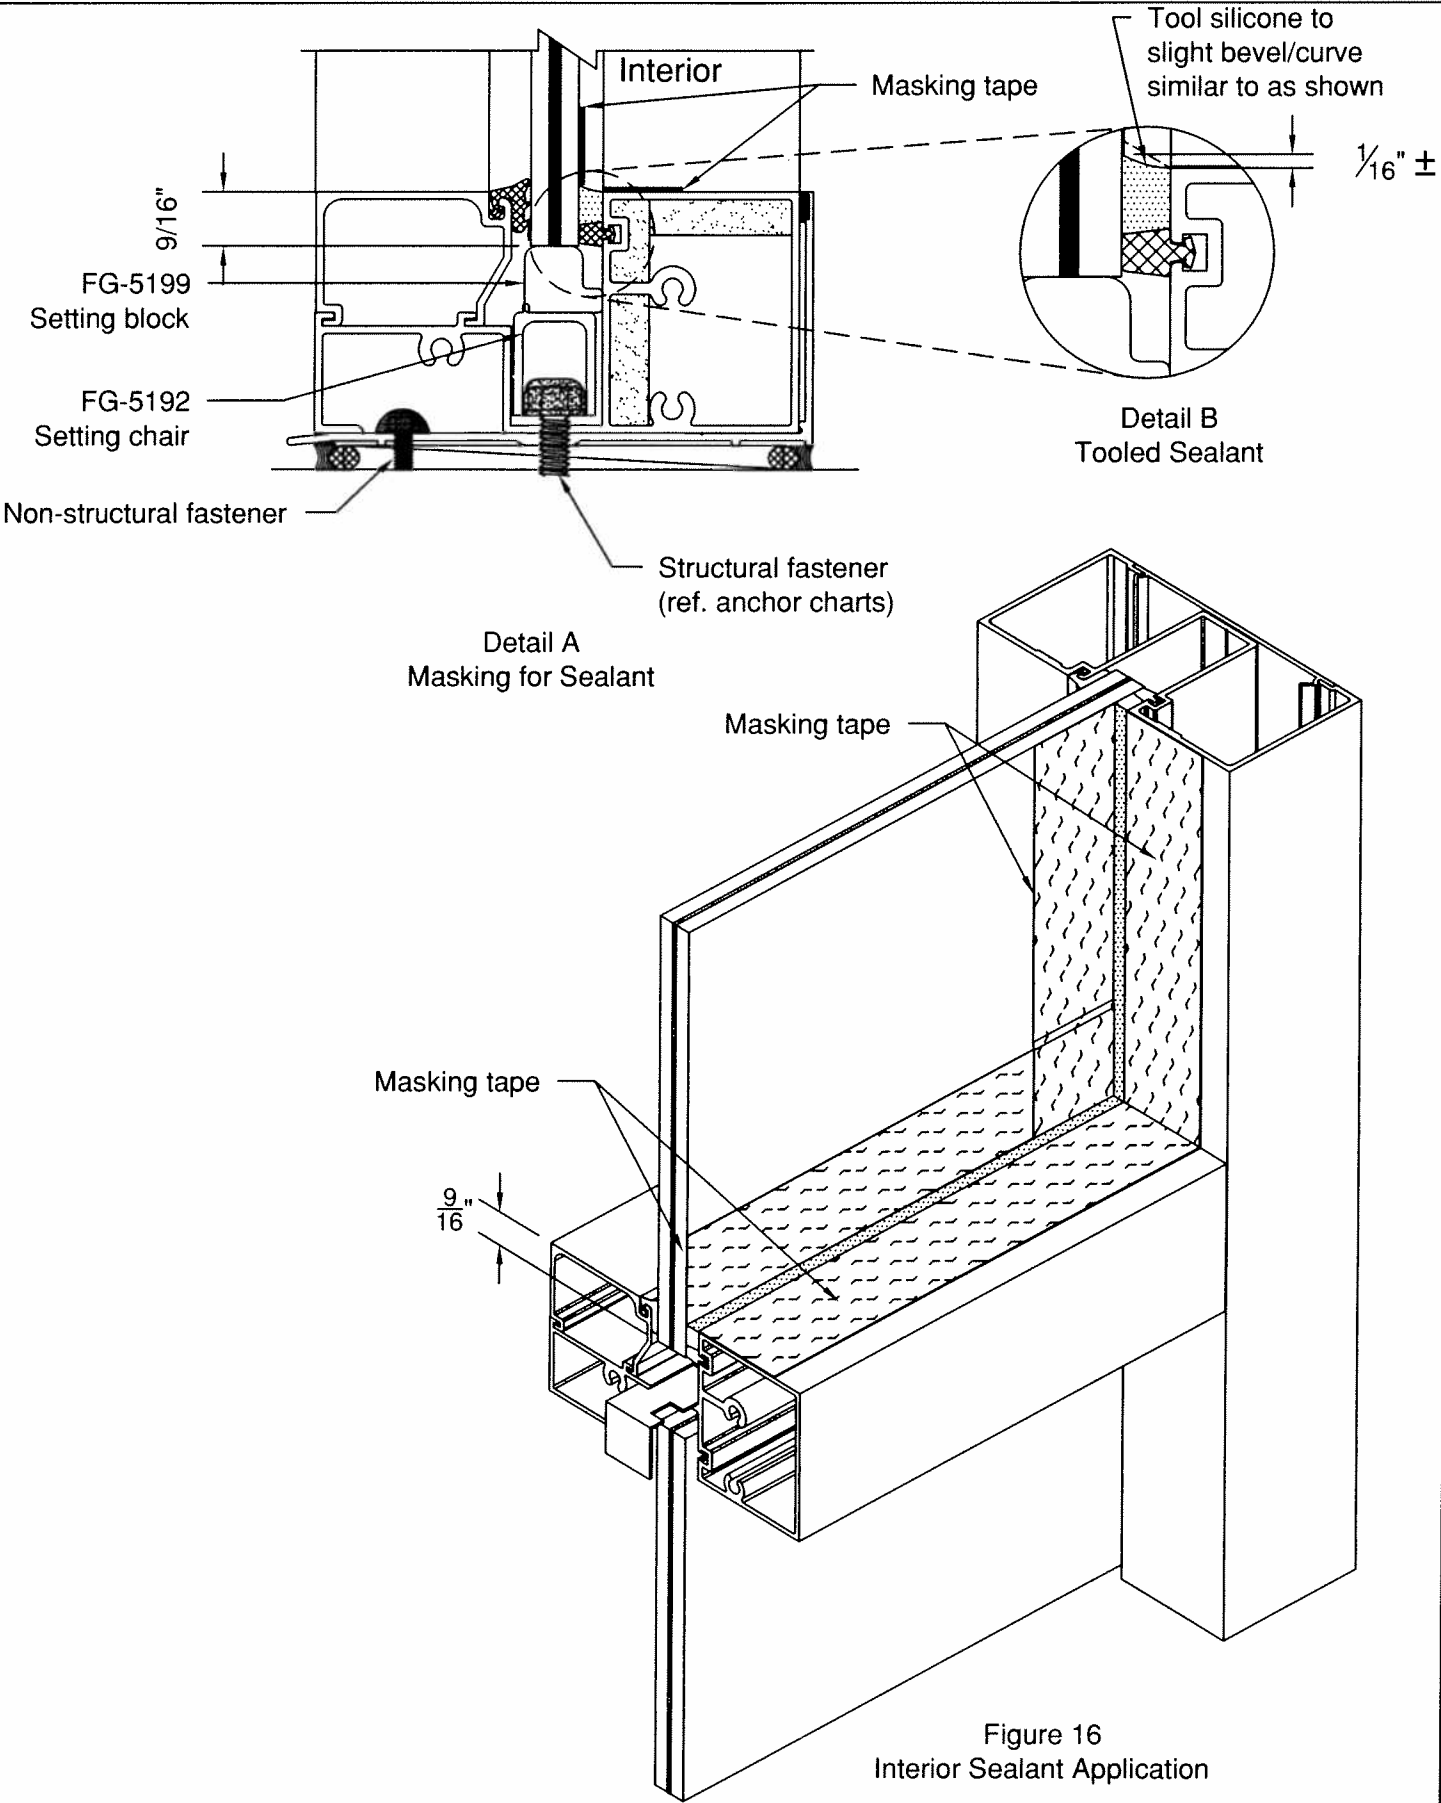

Figure 16
- 4W.2.1 Set glass into opening, push in to deep pocket first, at sill place glass on FG-5192 setting chair, then after centering in DLO , pull glass up and position FG-5199 setting block on setting chair (at 1/4 points) **See figure 16 on sheet 10**. At horizontal same procedure is used, except no setting chair is used.
4W.2.6 Mask off glass and aluminum with 1" wide (minimum) low adhesion masking tape. **SEE Figure 16.** Working a single DLO at a time, Fill cavity around full perimeter of DLO with Dow Corning® 995 sealant as shown, care should be taken not to leave any voids and eliminate air bubbles in sealant **(See Detail. A).** Immediately tool , creating a finished joint with a beveled/curved joint surface **See detail B above right.**